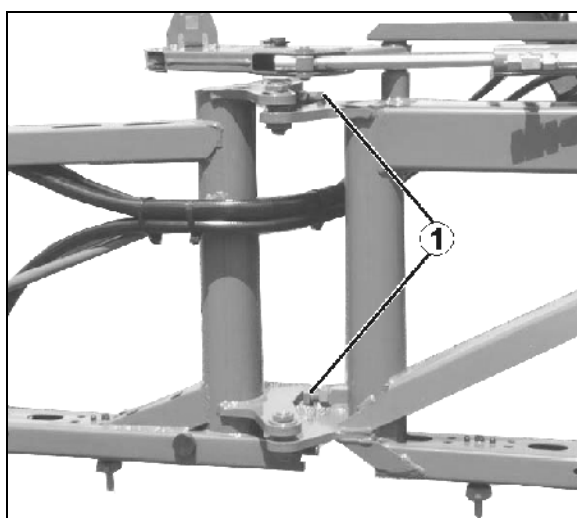

Fig. 147
1. Release the lock nut of the adjusting screw (Fig. 147/1).